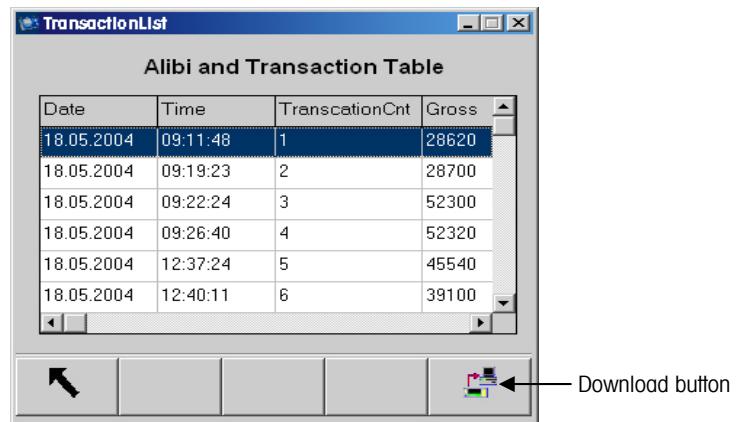
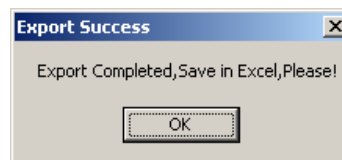

Figure B-20: Alibi & Transaction Table Data
Figure B-21: Export Success Dialog Box
2. Double click on Alibi & Transaction Table. The transaction list displays the Alibi & Transaction Table data (Figure B-20).
3. To download the contents of the Alibi & Transaction Table to a Microsoft Excel spreadsheet, click on the Download Button (Figure B-20). The Export Success dialog box (Figure B-21) displays to indicate the table data was successfully retrieved.